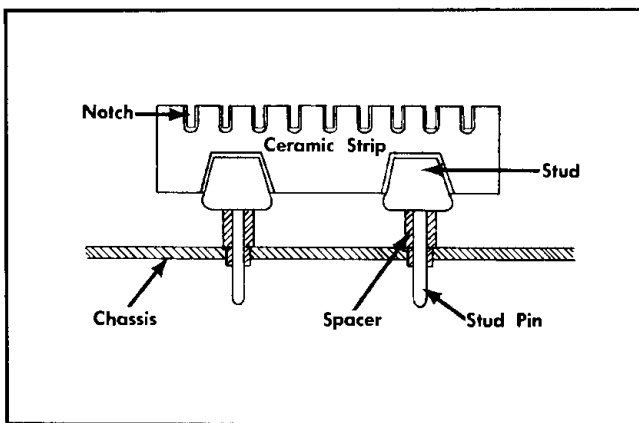

Fig. 4-1. Ceramic terminal strip assembly.
**Ceramic Terminal Strip Replacement.** A complete ceramic terminal strip assembly is shown in Fig. 4-1. Replacement strips (including studs) and spacers are supplied under separate part numbers. However, the old spacers may be re-used if they are not damaged. The applicable Tektronix Part Numbers for the ceramic strips and spacers used in this instrument are given in the Mechanical Parts List.